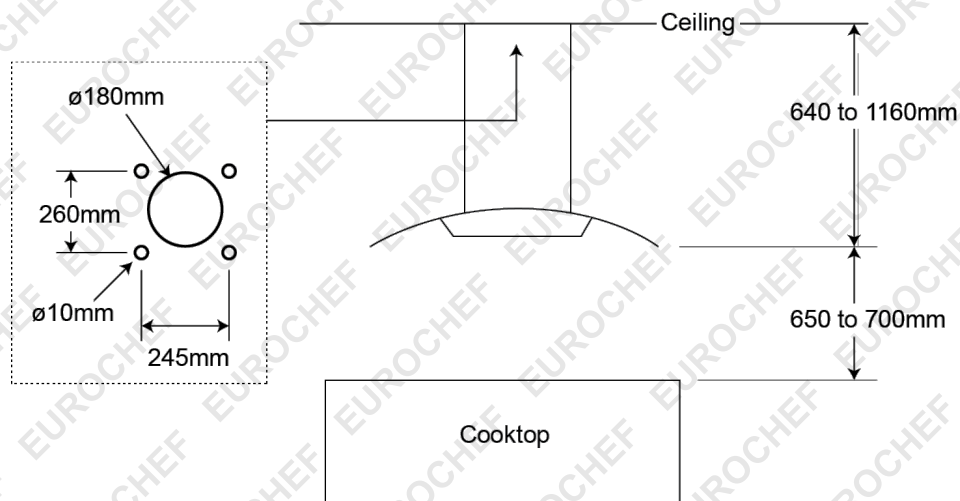

Figure 1
1. Drill 4 10mm diameter holes in the ceiling in a "rectangular" pattern, with holes 245mm apart along the front of the range hood, and 260mm apart along the side. Ensure the centre of the hole pattern is aligned to the centre of the cooktop (refer to *Figure 1*).